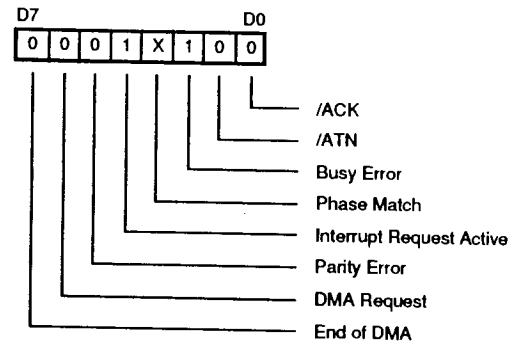

Figure 25. Bus and Status Register
**Loss of BSY.** If the Monitor Busy bit (bit 2) in the Mode Register is active, an interrupt is generated if the BSY signal goes FALSE for at least a bus-settle delay. This interrupt is disabled by resetting the Monitor Busy bit. Register values are displayed in Figures 25 and 26.